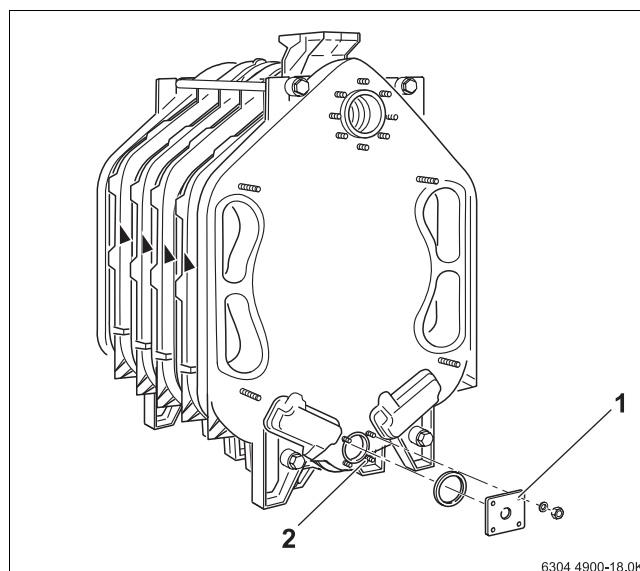

Fig. 23 Fitting the flange
- Drain water via fill and drain valve (→ Fig. 23, [1], page 19) upstream of the connection to the water system, or if a hub joint is leaking.